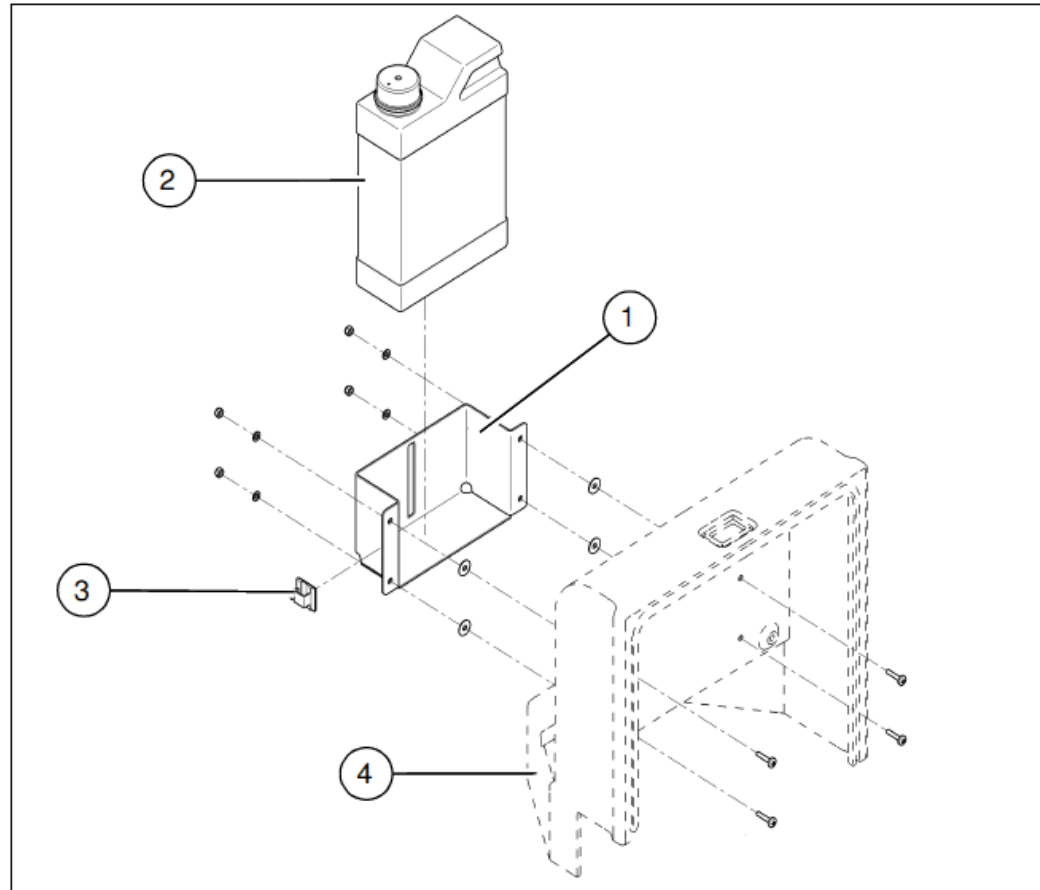

Fig. 1
1. Assemble the holder (Fig. 1/1) of the canister (Fig. 1/2) to the electrical box cover (Fig. 1/4) using hexagon bolts, nuts and washers.
2. Mount the cable clip (Fig. 1/3) on the holder (Fig. 1/1).
3. Insert the canister (Fig. 1/2).